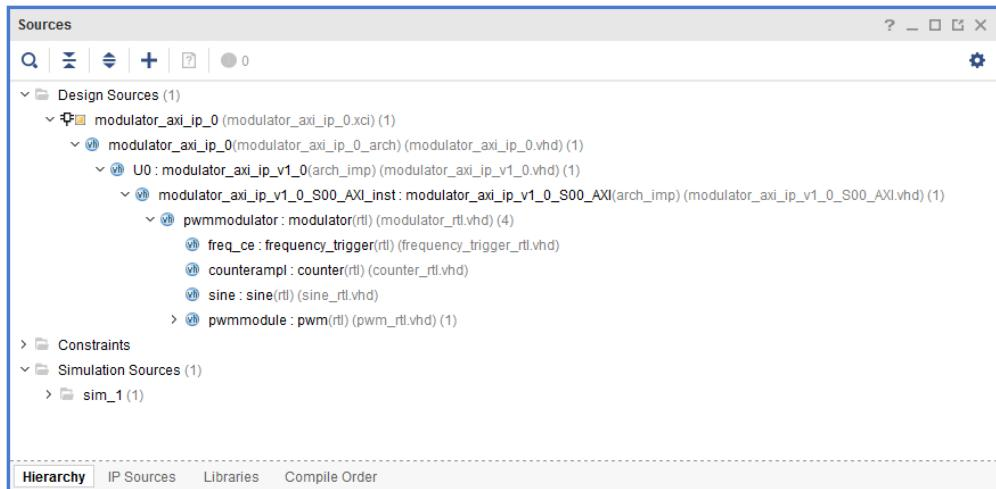

Figure 12.90: Sources window with modulator_axi_ip_0 sources hierarchy
36. In the **Sources** window expand all the levels of **modulator_axi_ip_0** IP hierarchy, see Figure 12.90. You can see the structure of the **modulator_axi_ip_0** IP.